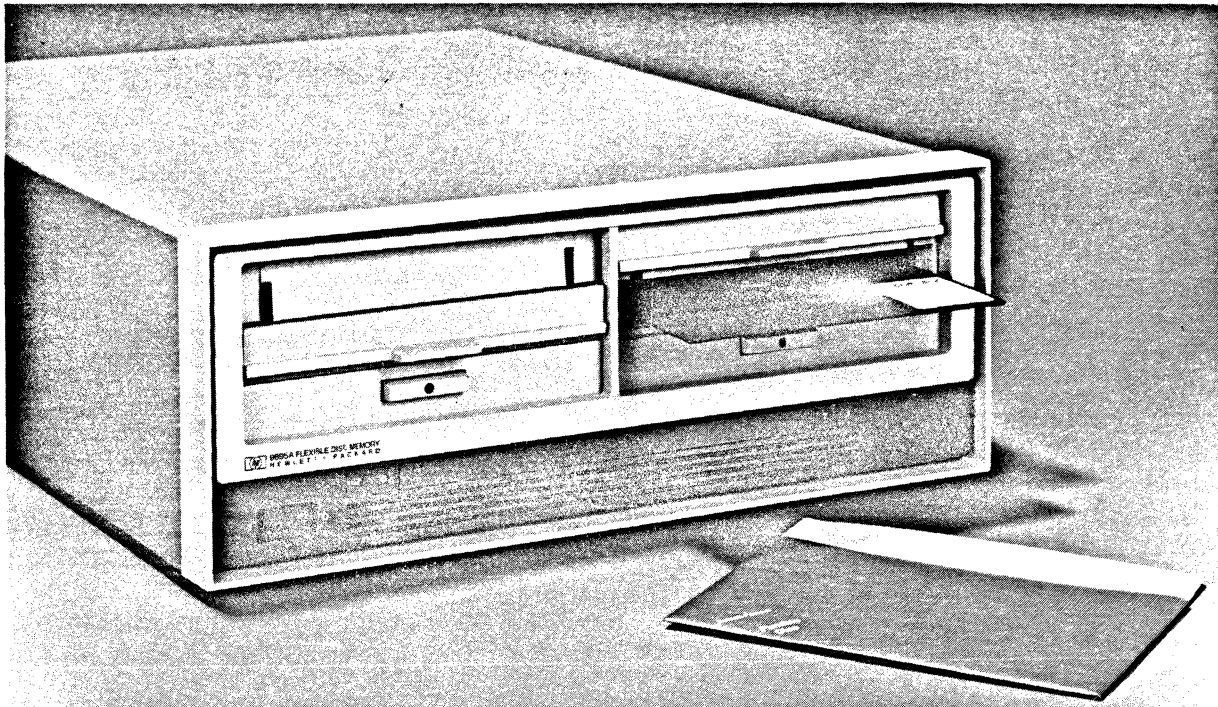

Figure 1-6. Loading a Disc
Figure 1-6 shows the proper method of loading the disc into the disc drive. To load a disc, proceed as follows:
2. Insert the disc into the drive, with the label on the disc facing up, as shown in Figure 1-6.